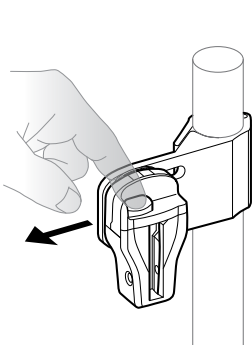

Fig. 14
1. Depress buttons and slide the left and right Slide Caps open, away from the shell. *Fig. 14*